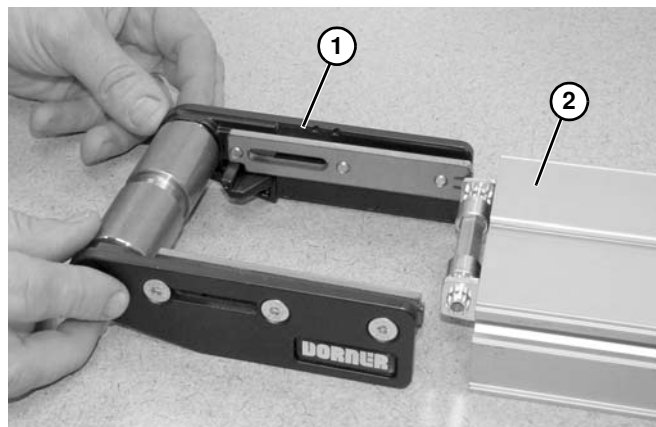

Figure 107
2. Remove idler tail (Figure 107, item 1) by sliding off of the conveyor (Figure 107, item 2).